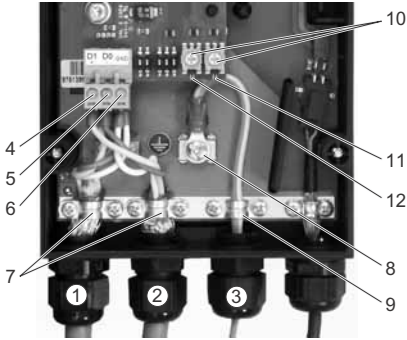

Fig. 4 Cable connections
Depending on the local network installation, one or two cables can be connected to the Modbus connections (fig. 4, pos. 1 and 2).
See fig. 4.
Note The Modbus address is set via DDA pump menu. Therefore the rotary switches (fig. 4, pos. 10) have been deactivated from factory.
Note The LED (fig. 4, pos. 11) indicates the status of GENibus connection. The LED (fig. 4, pos. 12) indicates the status of Modbus connection.